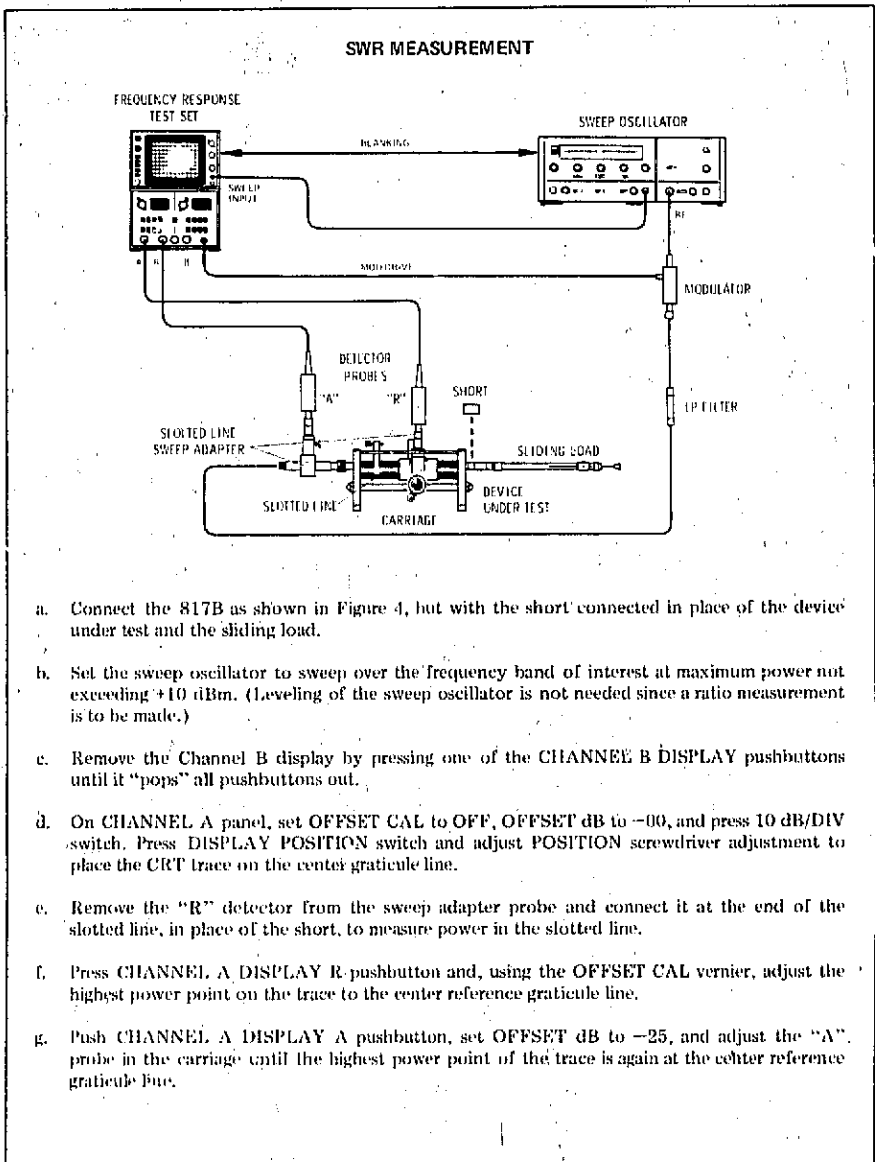

Figure 4. SWR Measurement (1 of 2)
53. Figure 4 illustrates SWR Measurement in a step-by-step procedure. Before making a measurement, be sure to read OPERATING CONSIDERATIONS which follows.
61. Adjust the various clamps so that the load tracks with the carriage over the entire length of travel. Measure the SWR in the same manner as described in Figure 4, SWR Measurement. The effect of any reflection from the sliding load will be cancelled out since there is a fixed distance between the probe and load. The position of the top and bottom of the trace will move with any reflection from the load but, since the detector and load move together, both the top and bottom of the trace will move in unison and the effect of the width measurement will be cancelled out.
71. Measure the SWR of a sliding load with CW operation using the setup shown in Figure 4. Move the sliding load while observing the spot excursions. The true residual SWR is the average of the maximum and minimum excursions. This value should be within the values given in Table 1 for the type connector used. To convert SWR to return loss use the formula: